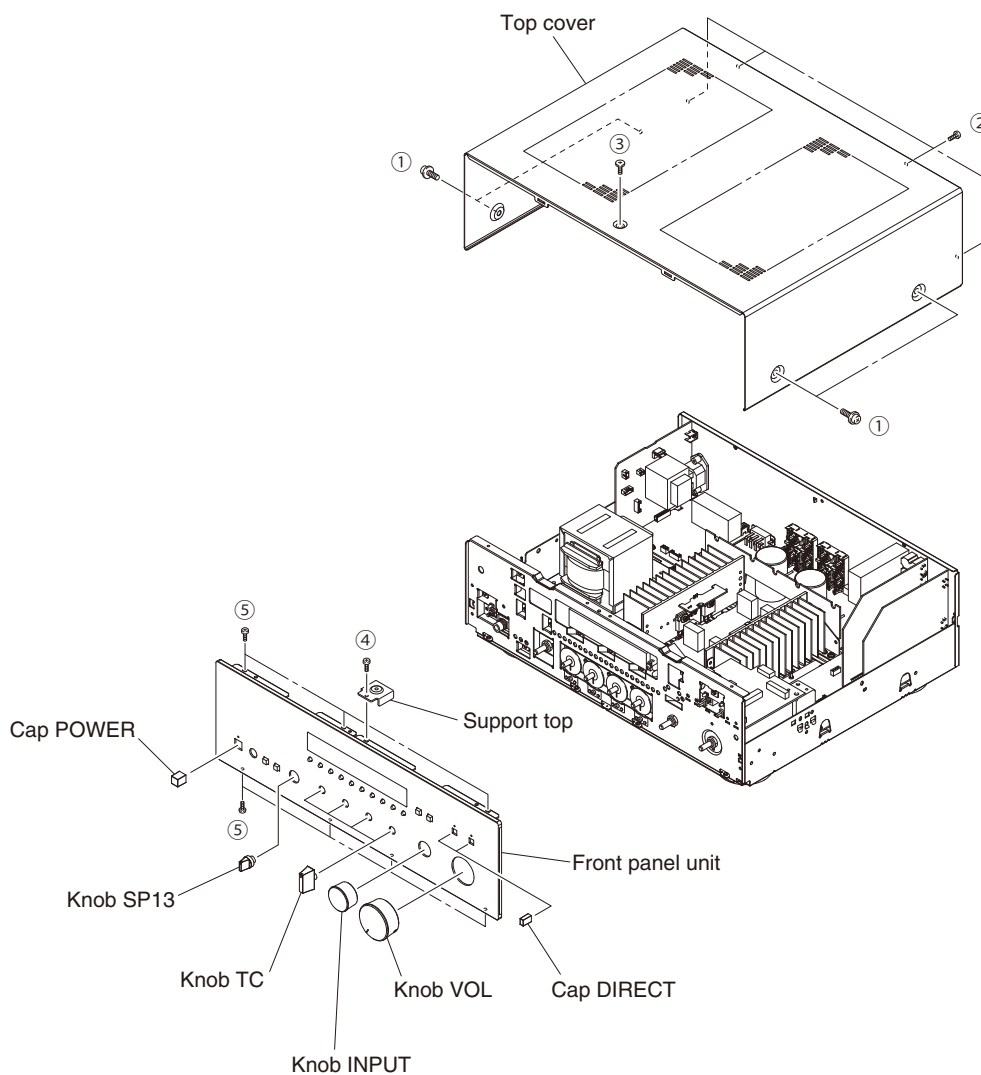

Fig. 1
- Remove 4 screws (①), 4 screws (②) and screw (③). (Fig. 1)
- Remove the top cover. (Fig. 1)
- Remove screw (④) and then remove the support top. (Fig. 1)
- Remove the knobs and caps. (Fig. 1)
- Remove 7 screws (⑤). (Fig. 1)
- Remove the front panel unit. (Fig. 1)